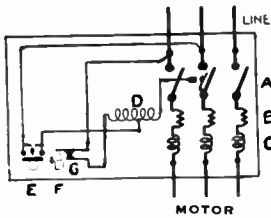

Fig. 16.—CONNECTIONS OF B.T.-H. ELECTROMAGNETIC STARTER AND CIRCUIT BREAKER.
Figs. 15, 17 illustrate a novel type of electro-magnetic direct starter with push-button control (direct or remote) and thermal relays for over-current protection. The switch contacts are oil immersed and are operated by a single-phase electro-magnet. Fig. 16 shows the scheme of connections. Thin lines represent the control circuits, and thick lines represent the main circuits.
The switch is closed by momentarily pressing the "on" push-button E, Fig. 16, which operation connects a portion of the operating coil of the electro-magnet across two of the supply mains. Just before the main contacts close, an auxiliary switch connects the whole of the winding of the operating coil to the supply independently of the "on" push-button.
The switch is opened by interrupting the circuit of the operating coil. This operation may be effected either manually, by pressing the "off" push-button F, Fig. 16, or automatically, by the action of the over-current releases. The switch also opens automatically in the event of a failure of the supply or of an abnormally low voltage. In these cases the operating electro-magnet acts as an under-voltage release.
(2) a bi-metallic spiral, which when sufficiently heated untwists and operates a tripping bar which opens the contacts of the "off" push-button switch, G, Fig. 16. The tripping bar can be seen in Fig. 15; it is located between the heaters and the main terminals.
relays in excess of 10 times the rated current of the starter. An electro-magnet is connected in series with each heater, as shown at C in the connection diagram of Fig. 16, and the common armature forms the tripping bar already referred to.
rents in excess of 10 times the rated current of the starter. An electro-magnet is connected in series with each heater, as shown at C in the connection diagram of Fig. 16, and the common armature forms the tripping bar already referred to.